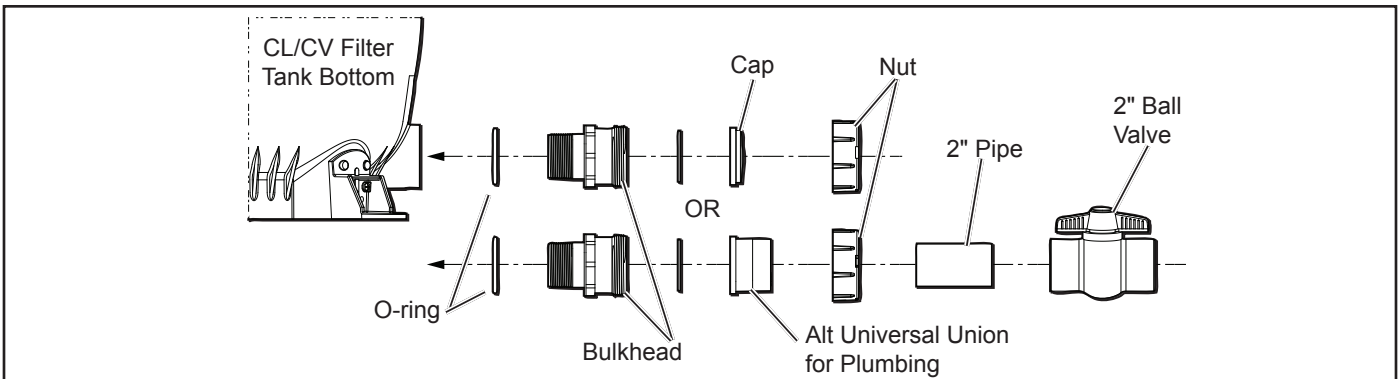

Figure 6. Jandy Pro CL and CV Series Cartridge Filter Drain Configurations
9. Connect the pipes using the unions supplied with the filter. **Do not use Teflon tape or pipe dope on any unions.** Assemble the unions dry and hand tighten. See Figure 6.
10. If desired, the CV filter drain can be plumbed using a Jandy Pro universal union. The plumbing must contain a ball valve as shown in Figure 6.